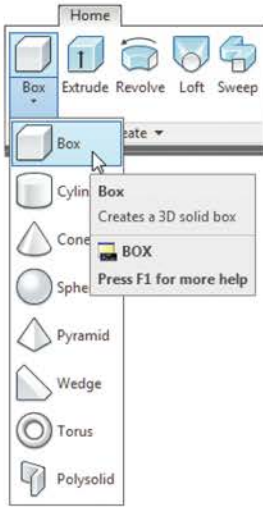

Fig. 9.23 Selecting Box from the Home/CREATE panel
4. *Click* the **Box** tool icon in the **Home/CREATE** panel (Fig. 9.23). The command sequence shows: